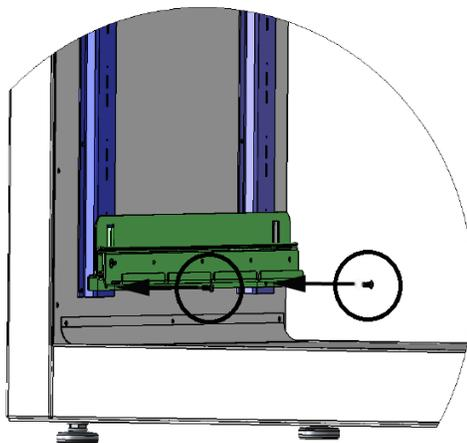

Figure 15: Sliding Mounting Bracket Screws
3. Secure the bottom flange of the sliding bracket to the shelf standard rails by threading and screwing in 2 screws, on the front and back of the flange. See Figures 15 and 14.